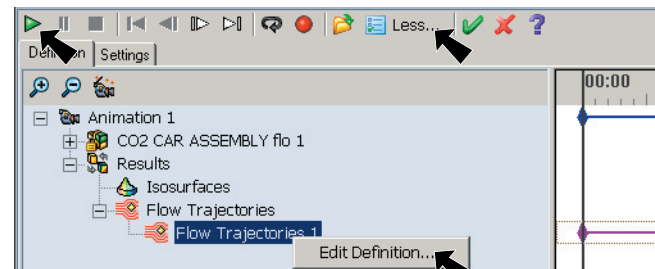

Fig. 33
Step 2. At the bottom of the display in the animation control panel, click **More**  to expand the panel, Fig. 33.
Step 3. Click **Play**  in animation control panel, Fig. 33.
Step 4. **Right click Flow Trajectories 1** in the Animation tree and click **Edit Definition**, Fig. 33.
Step 6. Click **Loop**  and **Play**  in animation control panel, Fig. 33.
Step 8. Experiment with other Flow Trajectories setting. To change setting, **right click Flow Trajectories 1** and click **Edit Definition**, Fig. 33.